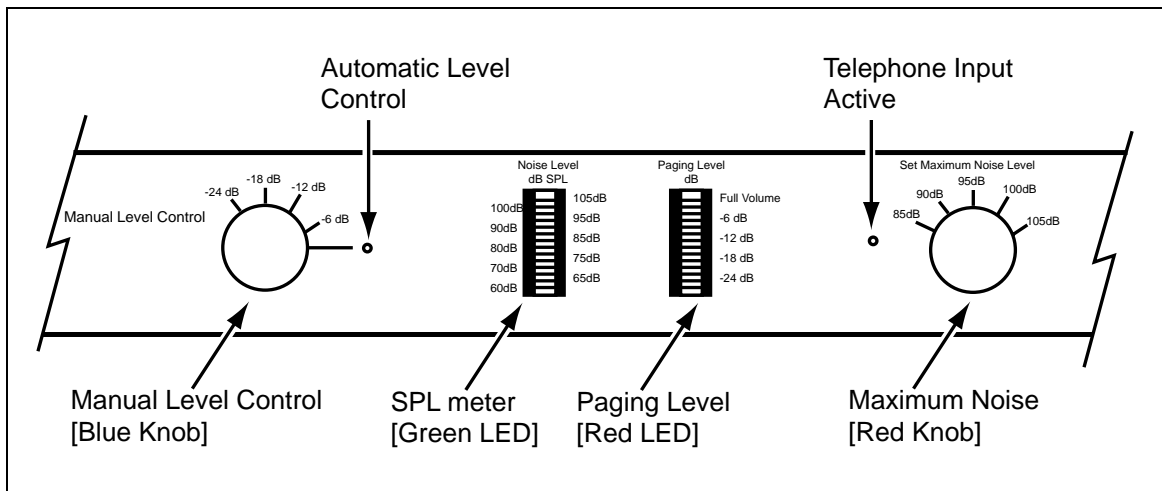

Figure 2-1. FM-15 ALC
1. Set the **MANUAL LEVEL CONTROL** to automatic (Blue Knob) (see Figure 2-1). This allows the FM-15 ALC to calibrate itself. The automatic position will allow the FM-15 ALC to constantly change the paging level to compensate for the changes in noise level in the area being monitored.
2. Check the **SPL meter** (the Green LED) (see Figure 2-1) for maximum noise level. This is your high noise level reading.
3. Set the **MAXIMUM NOISE LEVEL** control (Red Knob) (see Figure 2-1) to the average high noise level. If you feel the room noise may actually be louder at some time, move the control up one click to the right (clockwise).
4. The **PAGING LEVEL** meter (the Red LED paragraph) (see Figure 2-1) indicates the paging level changes that are taking place with dual LEDs.
The FM-15 ALC may be used without the FM-14 Log Current Microphone. In this mode, the FM-15 ALC becomes a leveler or limiter for manual control of the sound system. The SPL meter will not function but all other functions will work in the normal manner. The Manual Level Control on the front panel will set the level of the sound system (see Figure 2-1).